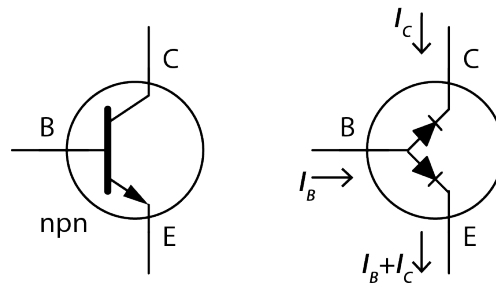

Figure 2.1: npn Transistor Symbol and 'Equivalent Circuit'
Due to the opposite polarities of the two junctions, this type of transistor is known as a **bipolar junction transistor**. The practical npn BJT, as used in electronic circuits, is a **three-terminal** non-linear device with pins labelled base (B), collector (C) and emitter (E). Figure 2.1 shows that the base-collector and base-emitter connections look like diodes. Whilst it looks like no current can flow from collector to emitter, we have to remember that this is possible due to *transistor action*, which will occur if we fulfil two conditions: